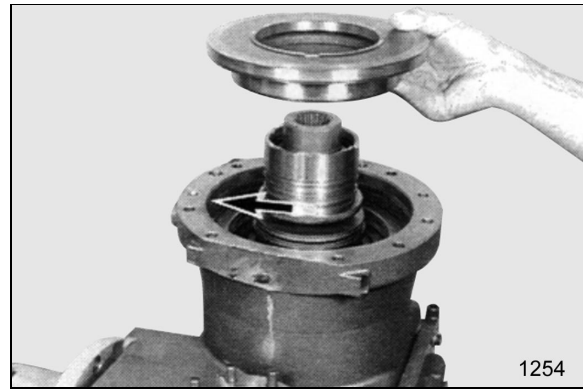

Figure 334
13. Install back-up ring and seal ring in ring groove of housing; oil the rings. Install piston evenly against shoulder using measuring cover and socket head screws, then remove measuring cover. See Figures 334 and 335.